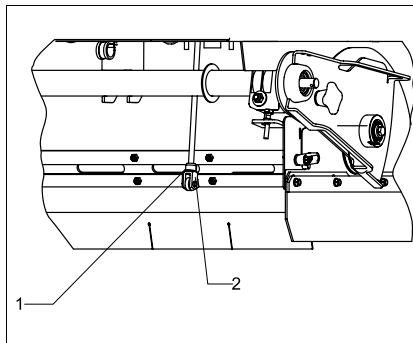

Fig. 16 Adjust folding apron
- Remove bolt (Fig. 16/2).
- Modify adjustment by turning the fork head (Fig. 16/1).